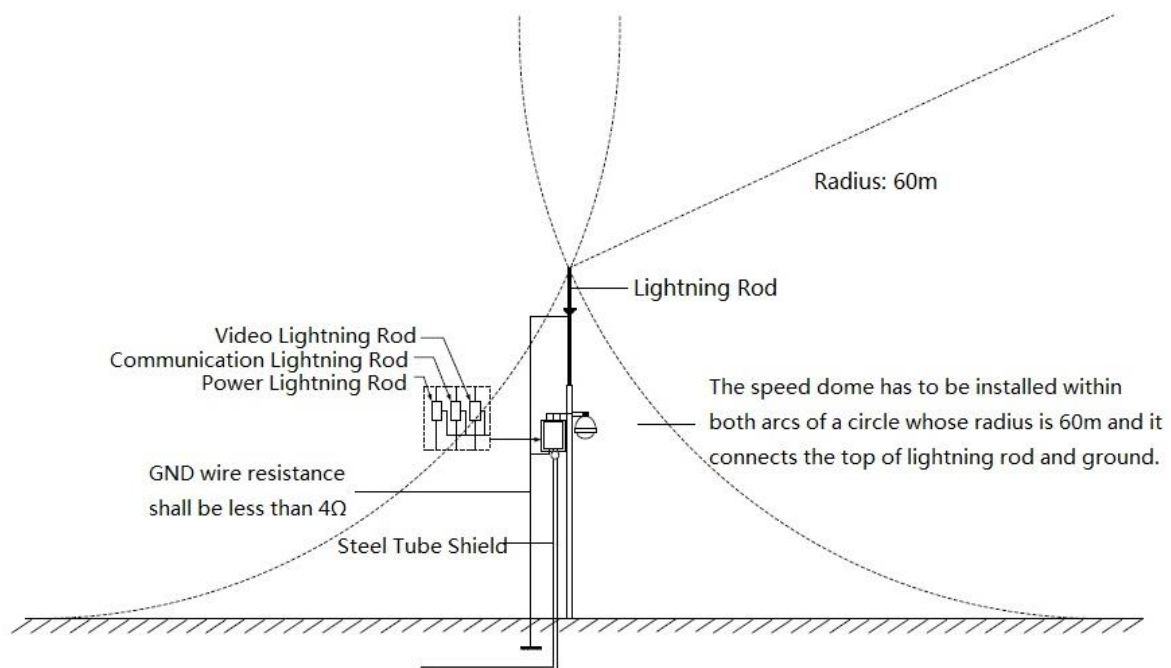

Figure 4-1
- System shall adopt equal-potential wiring. The earth device shall meet anti-jamming and at the same time conforms to your local electrical safety code. The earth device shall not short circuit to N (neutral) line of high voltage power grid or mixed with other wires. When connect the system to the earth alone, the earth resistance shall not be more than $4\ \Omega$ and earth cable cross-sectional area shall be no less than $25\ \text{mm}^2$. See Figure 4-1.